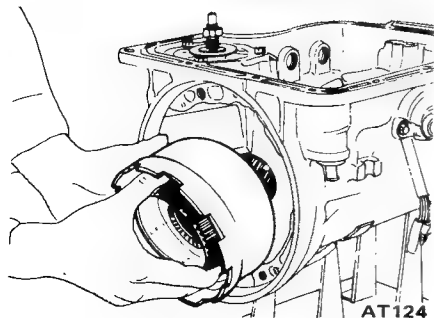

Fig. AT-58 Removing connecting shell
11. Remove connecting shell, rear clutch hub and front planetary carrier as a unit. See Figure AT-58.